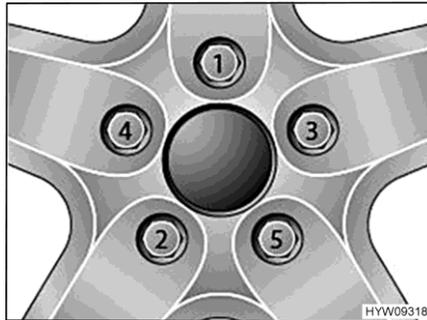

Fig. 122 Tightening the wheel nuts or wheel bolts cross-wise
- Tighten the wheel nuts or wheel bolts in the order shown in Fig. 122. In order to do this, use a torque wrench and comply with the specified tightening torque.
- Check regularly that the wheel nuts or wheel bolts are firmly seated. Re-tighten the wheel nuts or wheel bolts of a changed wheel after 50 km (30 miles). While doing so, proceed in the order shown in Fig. 122.
- When using new or newly painted rims, re-tighten the wheel nuts or wheel bolts once again after approx. 1,000 to 5,000 km (600 miles to 3,000 miles). While doing so, proceed in the order shown in Fig. 122.
- ▷ Tighten the wheel nuts or wheel bolts cross-wise (Fig. 122).